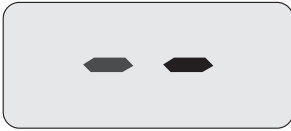
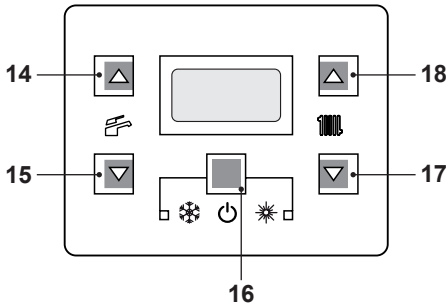

Fig. 7.4
Fig. 7.5
- Electrically power the boiler by switching on the double pole isolation switch. The LCD will display, the  symbol (Fig. 7.4).
- Press the 16 key for 2 seconds until both  and  symbols appear on the display (Fig. 7.5).
- Switch off the boiler by pressing the 16 (Fig. 7.5) key for 2 seconds until the  symbol appears on the LCD display (Fig. 7.4).